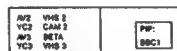

Fig. 43.
- 3 Select the desired source with Δ + or ∇ –. (See Fig. 43.) For details about each source, see the table on page 22.